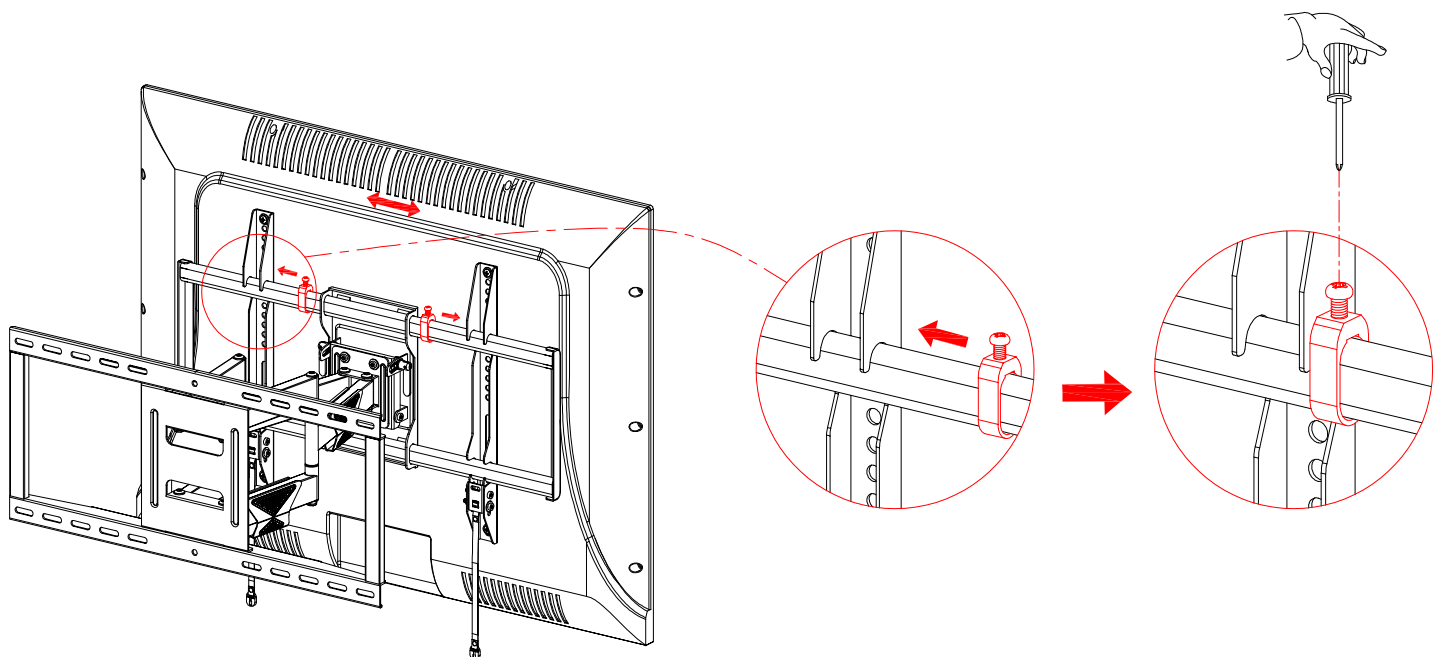

Figure 5
**Step 4:** Move the fixed block close to brackets, then fasten the screws with screwdriver to ensure the brackets unmovable. (Figure 5)